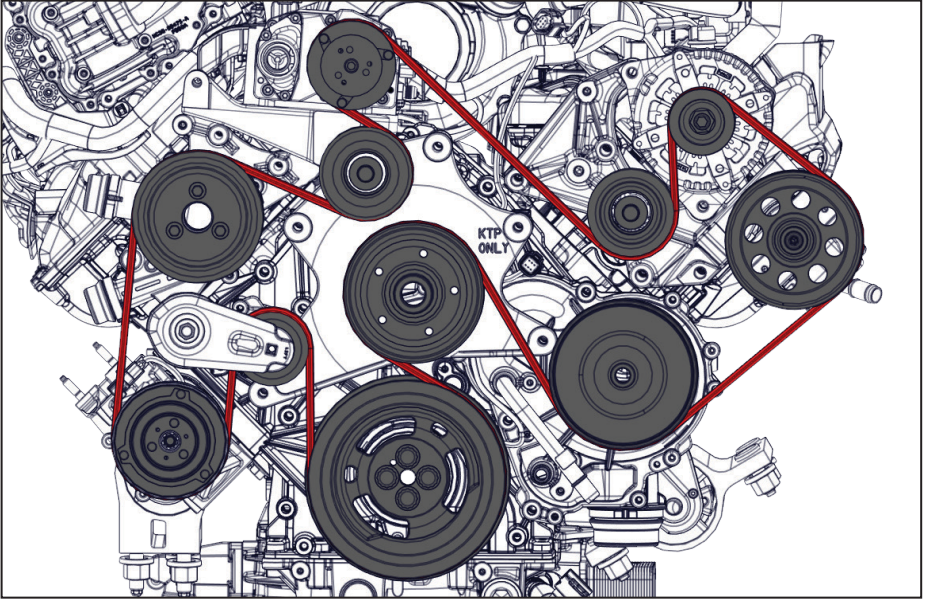
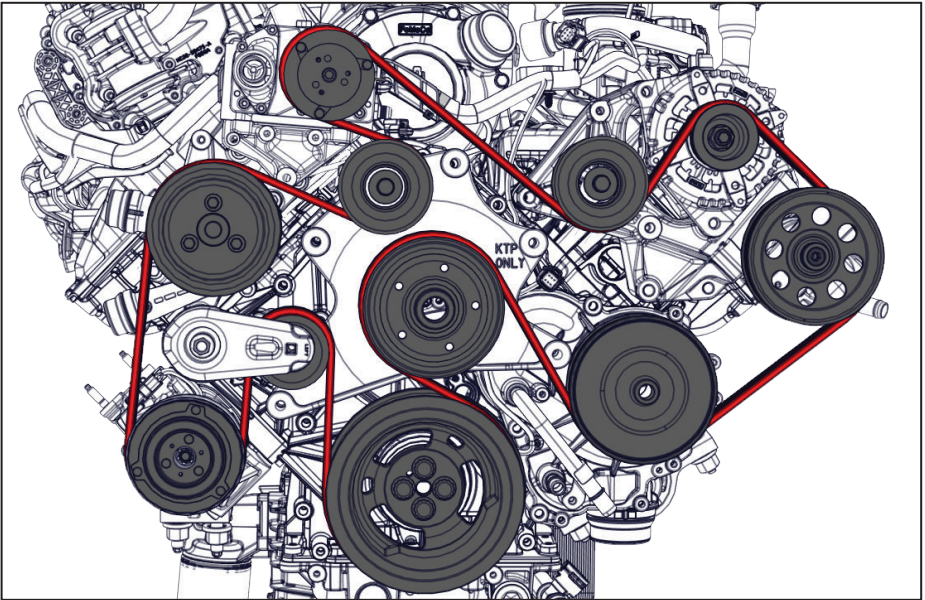

Figure 24 — Belt routing
Figure 25 — A900022 Belt routing
- Install and tension the VMAC supplied FEAD belt (Figure 24, Figure 25).